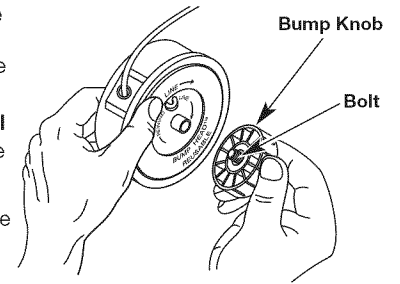

Fig. 14
1. Hold the outer spool with one hand and unscrew the bump knob counterclockwise (Fig. 14). Inspect the bolt inside the bump knob to make sure it moves freely. Replace the bump knob if damaged.
- Hold the outer spool with one hand and unscrew the bump knob counterclockwise (Fig. 14). Inspect the bolt inside the bump knob to make sure it moves freely. Replace the bump knob if damaged.